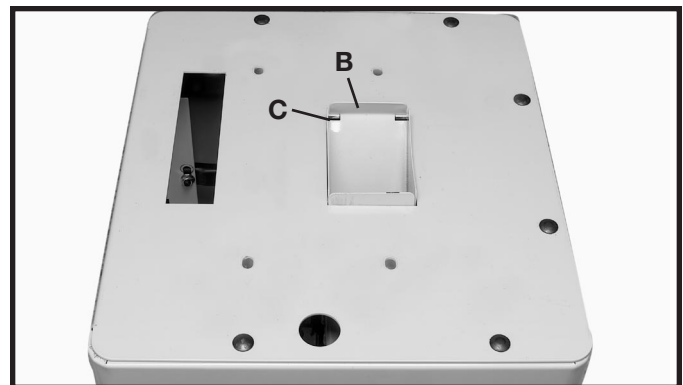

Fig. 12
**NOTE: MAKE SURE THE TAB (B) FIG. 12, IN THE DUST CHUTE, ENGAGES THE CUTOUT (C) IN THE TOP OF THE STAND.**